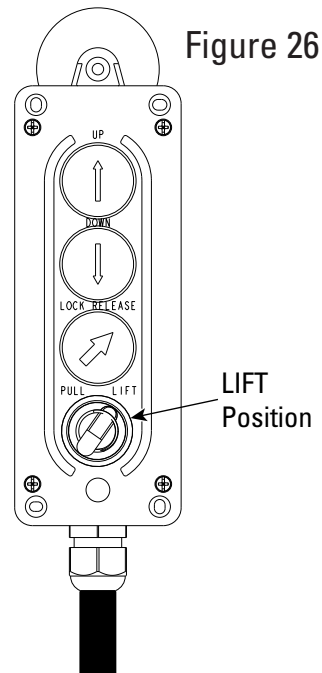

Figure 26
3. Rotate switch on pendant to "LIFT" position, Figure 26.